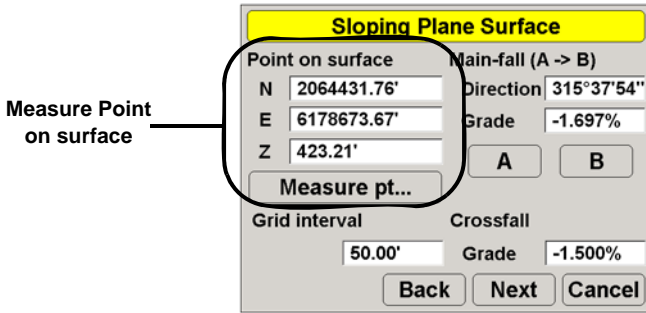

Figure 3-11. Measure Elevation Reference Point
- On the *Sloping Plane Surface* dialog box, and when the center of the bucket rests on the elevation reference point/hub, press **Measure pt** to measure the elevation reference point (Figure 3-11). The measuring dialog box briefly displays.